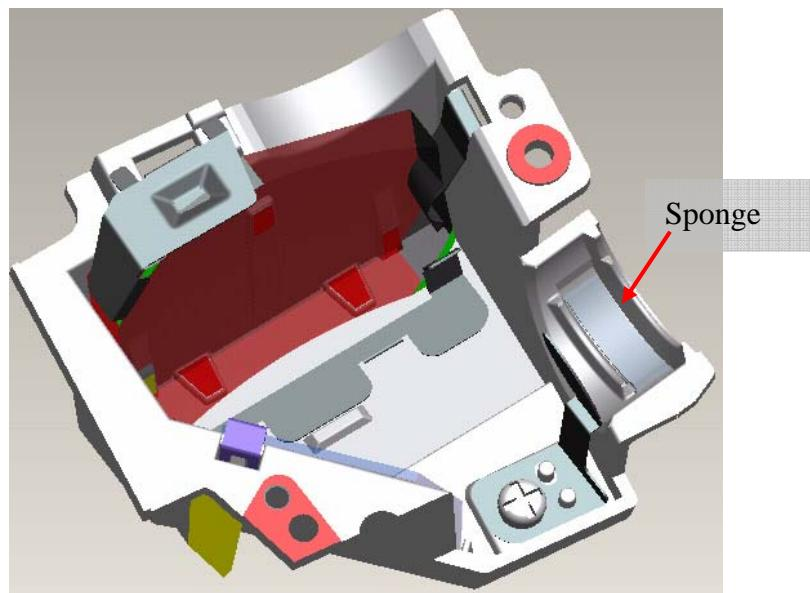

Fig. 6-11
- VIII. Paste Sponge tube AL on cannelure of HSG ILL(Fig. 6-11)